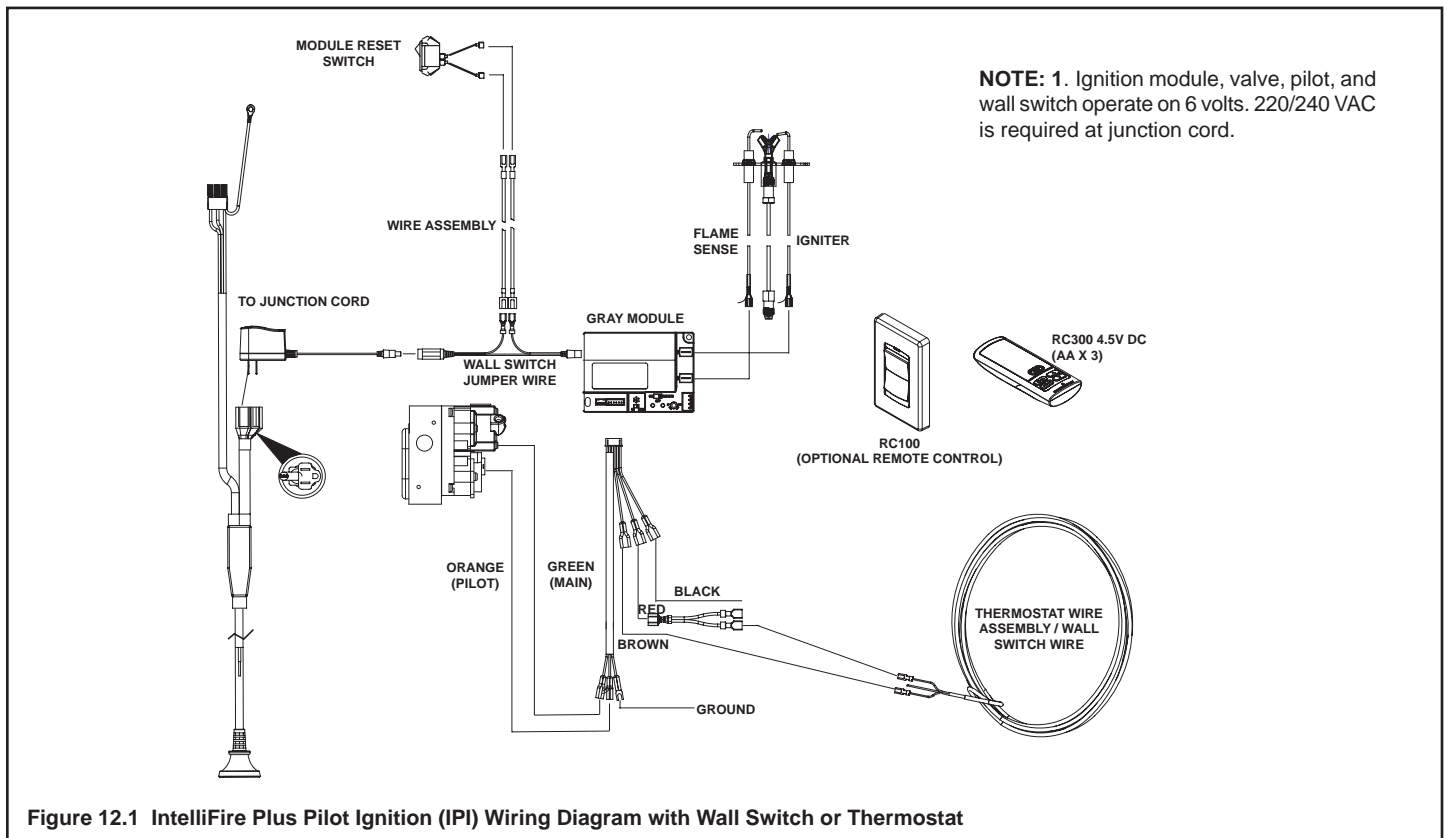

Figure 12.1 IntelliFire Plus Pilot Ignition (IPI) Wiring Diagram with Wall Switch or Thermostat
- Refer to Figure 12.1, IntelliFire Plus Pilot Ignition (IPI) Wiring Diagram.